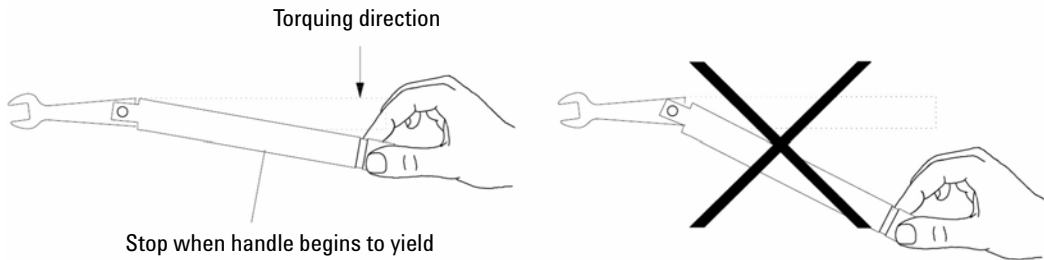

Figure 2-2 Using the torque wrench
- 4 Hold the torque wrench lightly, at the end of the handle only (beyond the groove). Refer to Figure 2-2 below.
- 5 Apply downward force perpendicular to the wrench handle. Refer to Figure 2-2. This applies torque to the connection through the wrench.
- 6 Tighten the connection just to the torque wrench break point. The wrench handle gives way at its internal pivot point. Refer to Figure 2-2. Do not tighten the connection further.